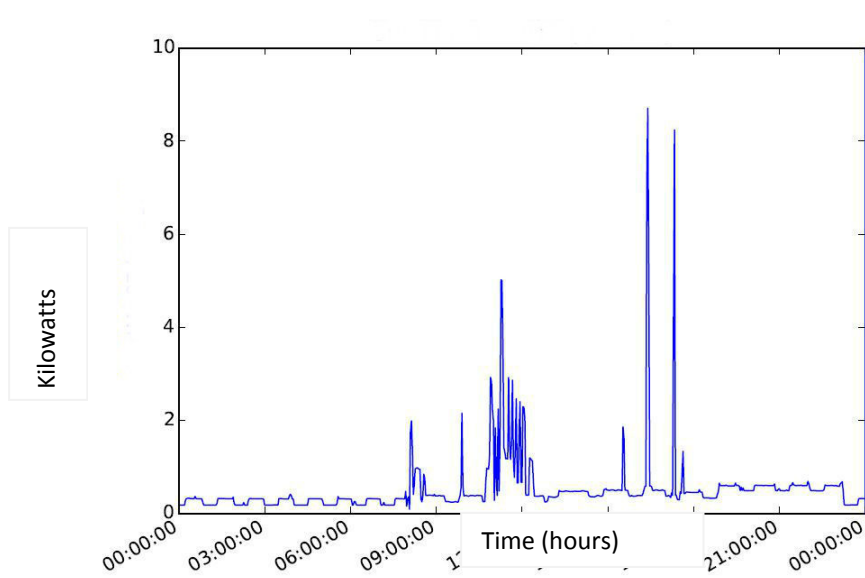

Figure 11 One day of 10 second interval electricity data (from energy sensor)
Figure 11 and **Error! Reference source not found.** show electricity use (kilowatts) from one household on different (but comparable) Sundays. The home had an electric oven but no electric shower. The first chart is 30 minute interval data; the second shows 10 second interval data. Note that the kilowatt scales are different for the two charts: the first is 0-5 KW, whereas the second is 0-10 KW.
1. Both charts show a basic level electricity use of about 0.2kW per hour. Figure 11 shows a ‘battlement pattern’ - alternating periods of slightly higher then lower electricity usage – which is the signature for a fridge or freezer (indicating cooling cycles).
2. Where there is a peak in electricity use it is only possible to guesstimate what that relates to from householder appliance ownership and use, and the power ratings of appliances. For example a 2kWh peak in electricity use for a short time (8am in Figure 11) could be due to a kettle, toaster, or coffee maker as they have similar power ratings.
3. Where there’s a chunk of electricity use (12 noon in Figure 11) from various appliances being used at the same time, discussion with the client can help to identify what was occurring. This example could be the electric cooker, kettle, and probably a washing machine (the zigzag pattern at the end signifies spin cycles).